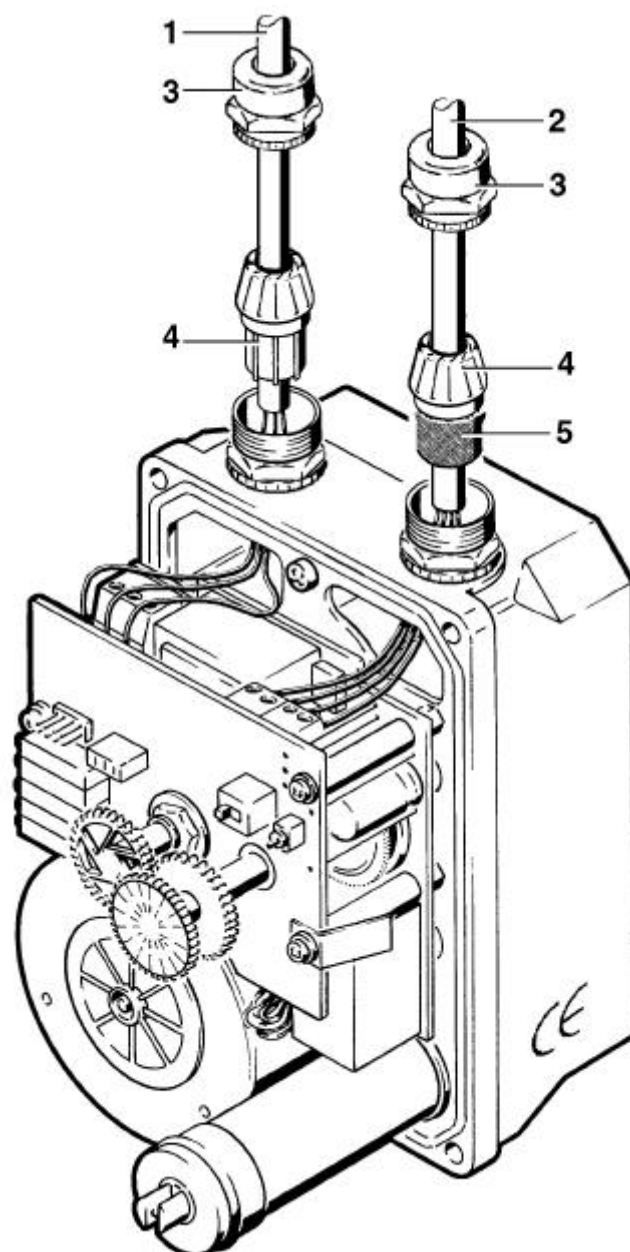

Fig. 8-4 Connecting the cables/leads - for example to the ER 20
- Push the power supply cable (1) through the unscrewed union nut (3) and the plastic support sleeve (4) and insert the cable into the left-hand PG screw fitting in accordance with Figure 8-4. Tighten the union nut, so that the strain relief is effective and the cable lead-through corresponds to the predefined degree of protection (IP 65).
- Push the setpoint/actual value cable (2) through the unscrewed union nut (3) and plastic support sleeve (4), spread out the screen (5) and distribute the wires around the plastic support sleeve in accordance with Figure 8-4. Insert the setpoint/actual value cable into the right-hand PG screw fitting. Tighten the union nut so that the screen is electrically connected to the housing, the strain relief is effective and the cable lead-through corresponds to the predefined degree of protection.
- Loosen the screws of the terminals and pull the leads out of the terminals. On this point, see Figure 8-4.